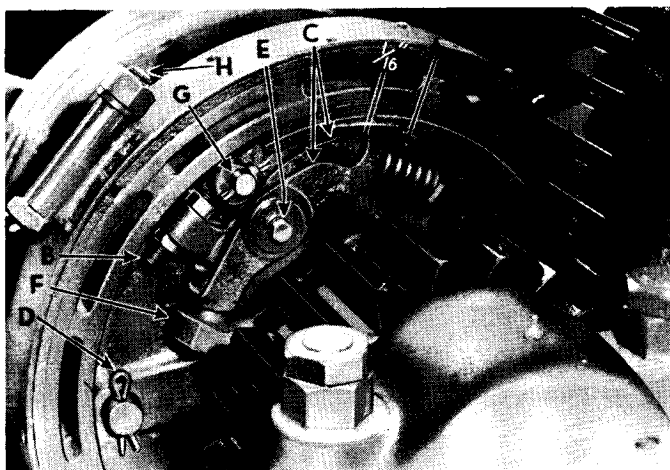

FIG. 7a
The boom hoist hoisting and lowering clutches are duplicates and both clutches are adjusted in the same way. (See Fig. 7a). The spring "A" is set at the factory to a length of $2\frac{1}{8}$ inches and should not be disturbed. When the clutch band wears enough so that the clutch will not hold without slipping readjust each clutch as follows:
2. Take out the bolt "H" at the splice in the band (See Fig. 7a) and lift out the top half of the band.